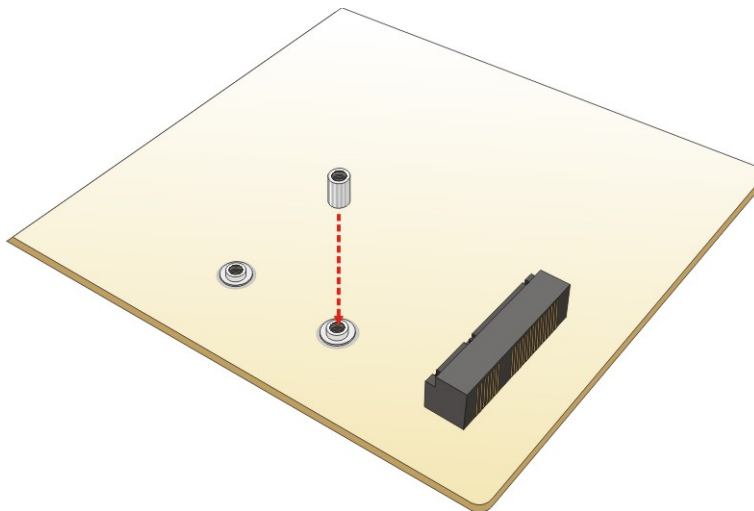

Figure 4-6: Installing the Standoff
Step 3: Install the previously removed standoff to the screw hole for the half-size mSATA module (**Figure 4-6**).